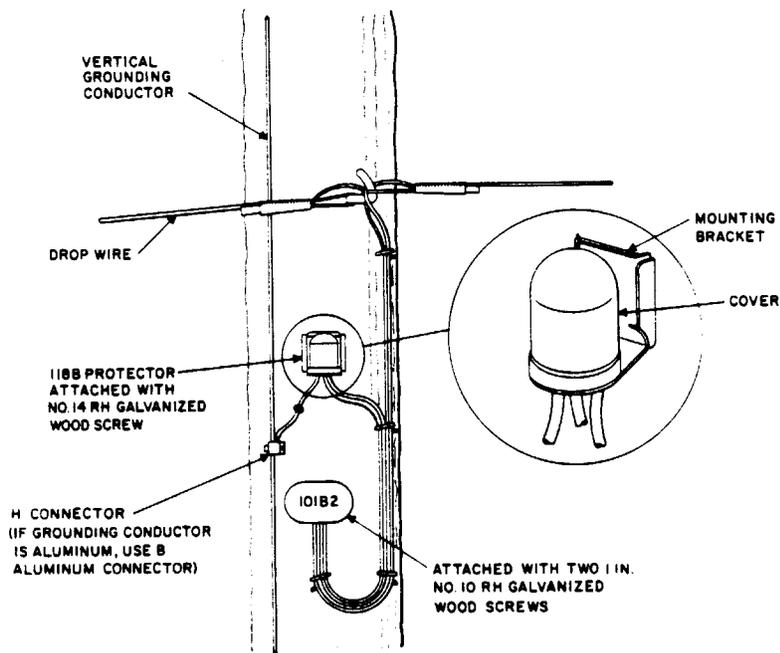
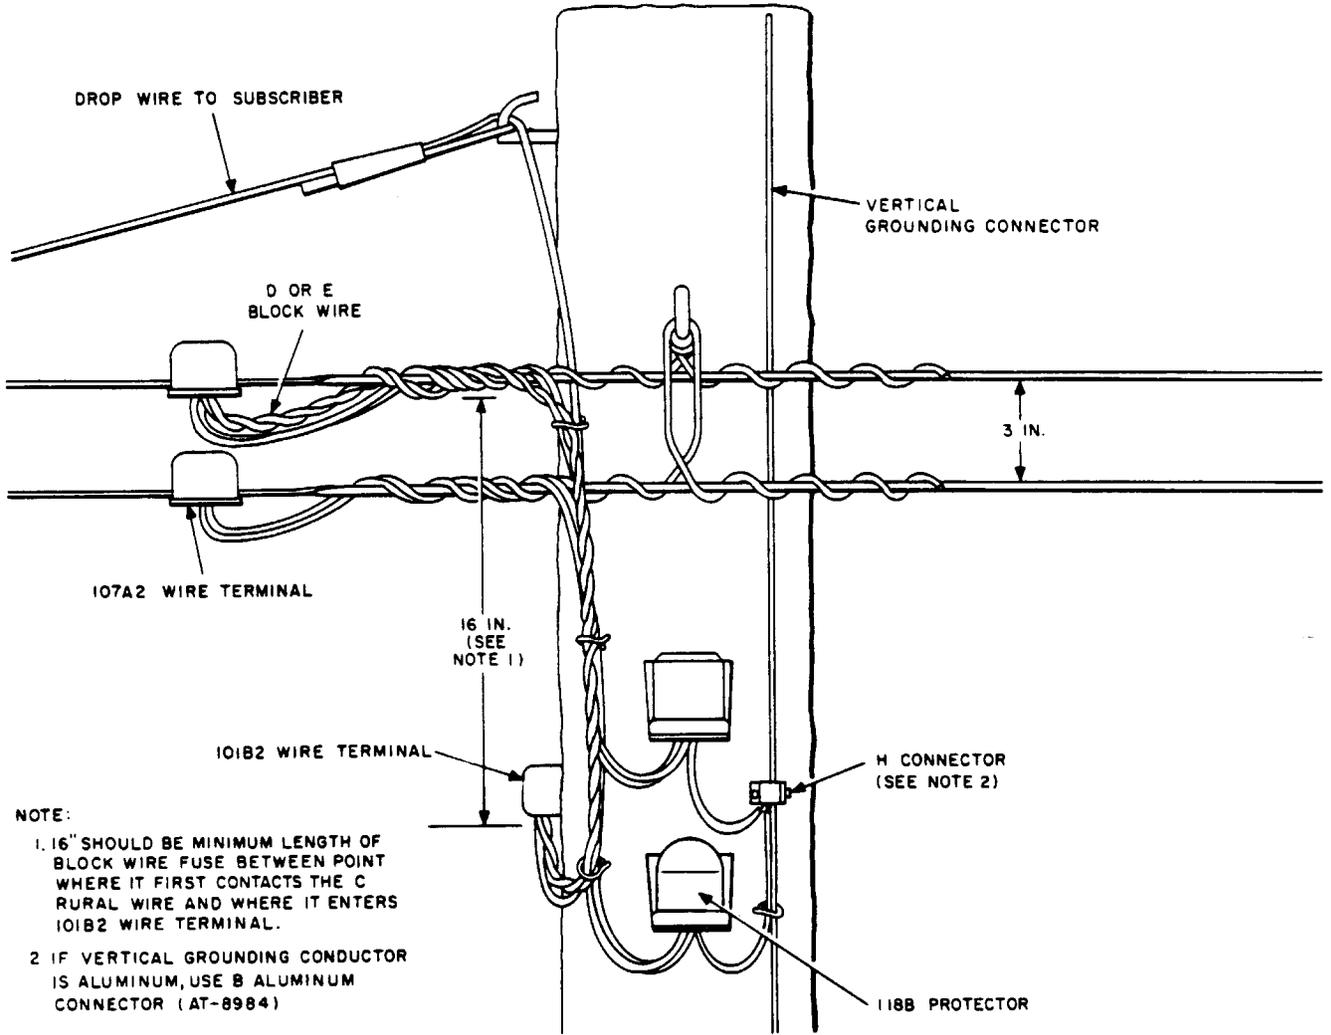

Figure 80—118B Protector Connected to Drop Wire
Figure 81—118B Protector Connected to Rural Wires
12.02 The 118B protectors are connected to drop wires (Figure 80) or rural wires (Figure 81) as specified by detailed plans or telephone company engineering or supervisory instructions. The 118B